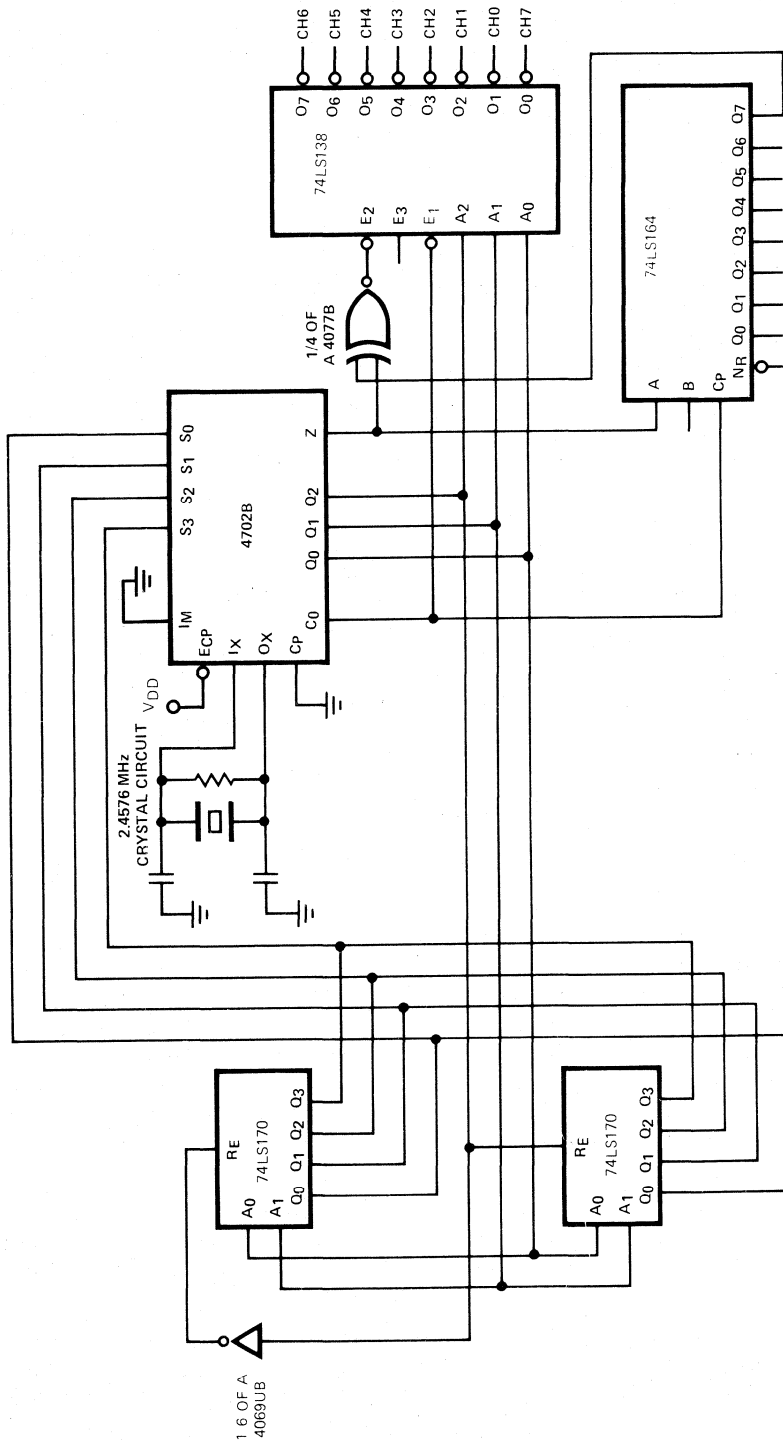

Fig. 5. A Fully Programmable 32 Times Frequency Bit Rate Generator System
Figure 5 illustrates a fully programmable 8-channel system. Two 9LS170 devices are used to store the channel frequency selection information. These devices can be loaded with information on a per channel basis. For clarity, circuitry for writing into these devices is not drawn. The least significant SCAN counter outputs (Q_0 and Q_1) of the 4702B are used as the read address inputs of the 9LS170s. The most significant bit (Q_2) is used to control the read enable (RE) inputs of the 9LS170s. The $Q_0 - Q_2$ outputs of the 4702B are also the inputs to a 9LS138 decoder. The clock output (CO) of the 4702B is used to control one enable input (\overline{E}_1) of the 9LS138. The CO output is also the clock input (CP) for the 9LS164 shift register. The Z output of the 4702B is the data input (A) to the 9LS164. The Z output of the 4702B is also tied into an exclusive NOR gate (4077B) as one input. The second input to the exclusive NOR gate is the Q_7 output of the 9LS164. The output of the exclusive NOR gate controls the second enable input (\overline{E}_2) of the 9LS138. The outputs ($O_0 - O_7$) of the 9LS138 are the desired output clock signals.
To understand the operation of this circuit, consider the LOW-to-HIGH transition of the CO output of the 4702B when the SCAN counter outputs change from "7" (HHH) to "0" (LLL). From this transition to the next LOW-to-HIGH transition of the CO, the Z output of the 4702B reflects the state of the channel 7 counter output. The $Q_0 - Q_2$ outputs of the 4702B are LOW and hence information for channel 0 will be available on the 9LS170 outputs. The $S_0 - S_3$ inputs of the 4702B are connected to the 9LS170 outputs. On the LOW-to-HIGH transition of the CO output channel 0 counter will be clocked to the Z output. This transition also clocks the 9LS164. The SCAN counter also increments on this transition and will point to channel 1. As the clocking continues, 9LS170 locations will be read out sequentially and information will be shifted into the 9LS164. After eight clock transitions the previous channel 7 output will be at the Q_7 output of the 9LS164, and the current channel 7 output will be on the Z output of the 4702B. The output of the exclusive NOR gate will be LOW if the inputs differ; i.e. whenever the channel 7 output is to make a transition the output of the exclusive NOR gate will be LOW. The CO output is connected to the \overline{E}_2 input of the 9LS138 and during the negative half cycle of the clock the O_0 output of the 9LS138 will be LOW. The 4702B internal counters generate 16 times the selected bit rate. The exclusive NOR gate is generating a signal whenever the selected counter is making a transition. This scheme will result in 32 times the selected bit rate. As the clocking continues each channel is serially appearing on the Q_7 output of the 9LS164 and will be compared with the corresponding current channel output. The 9LS138 will then represent the appropriate frequency at its output as shown in *Figure 5*.